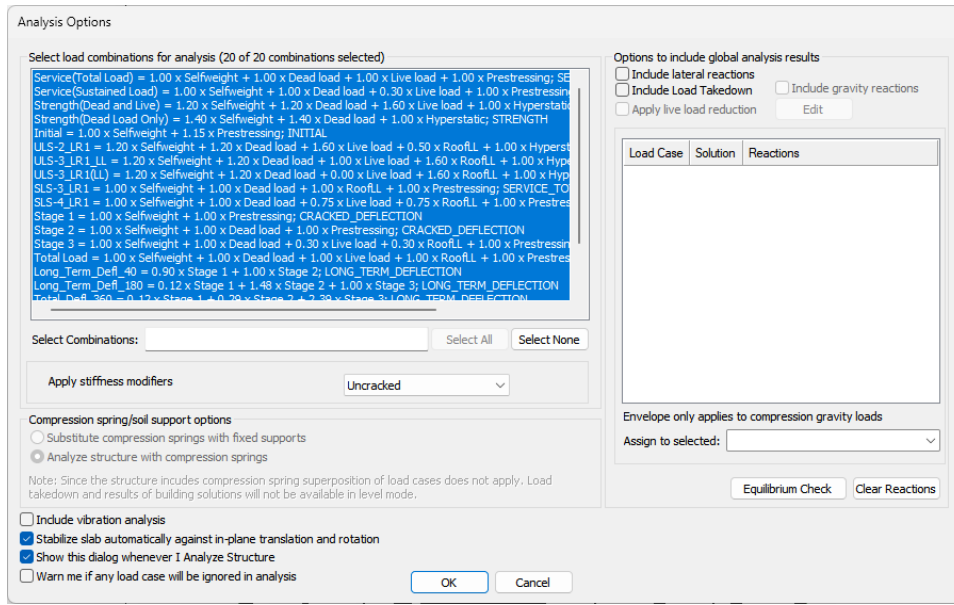

FIGURE 10-18
- In the *Analysis Options* window select all load combinations as well as the options as shown in **FIGURE 10-18**.